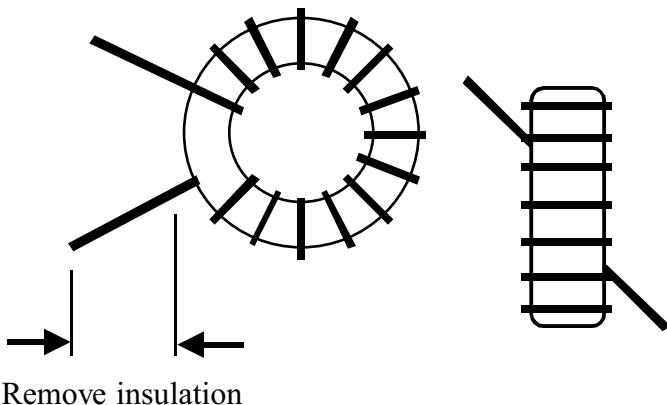

Figure 4-3
- Find the component outline for L9 on the Filter board. Compare this component outline to Figure 4-3, which shows two views of a typical toroidal inductor. L9 will be mounted vertically as shown at the right side of the drawing, with one wire exiting at the core's upper left, and the other at the lower right. There are pads on the PC board in these two locations.
- To wind L9, cut the specified length of #26 red enamel-coated wire, then "sew" the long end of the wire through the core. *Each pass through the core counts as one turn.* The finished winding should look similar to Figure 4-3, but with the number of turns indicated in the parts list. *Figure 4-3 shows 14 turns.*
- Strip the leads of L9, as explained above. You should remove the enamel from the leads up to about 1/8" (3 mm) from the core (Figure 4-3).